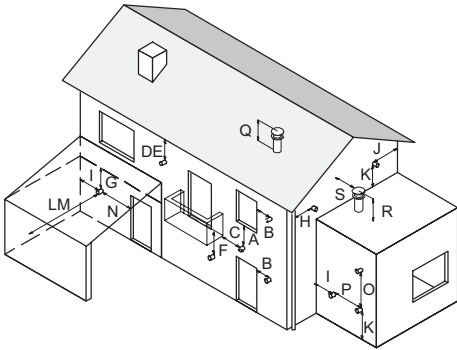

Figure 5.19
- comply with the minimum distances Figure 5.19 and any national or local regulations.